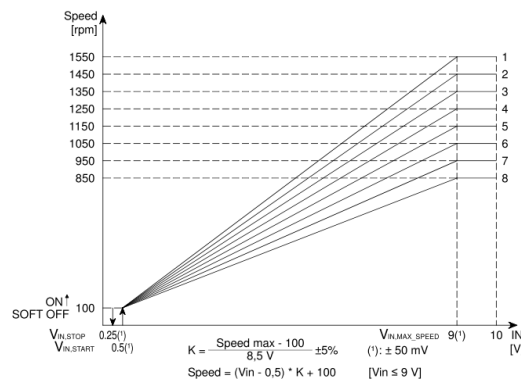

Fig. 4.1 - IN voltage Vs Speed reference
The relation between the voltage of the INPUT (IN) signal and the speed reference is shown in Fig. 4.1.